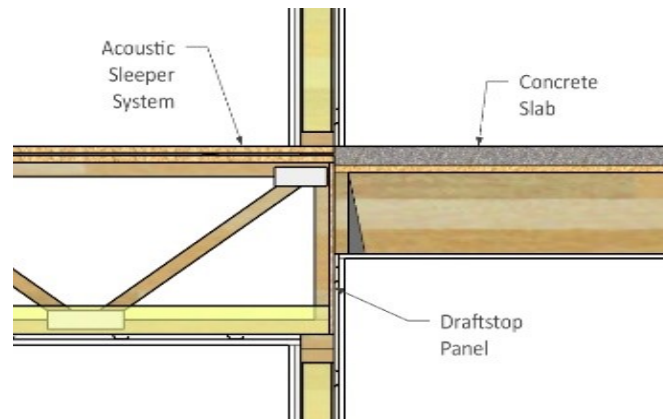

Figure 5: Typical section at Breezeway
- Fig. 5: Typical Breezeway section detail. Drop wood panel subfloor elevation for concrete flush with subfloor at wood framing.